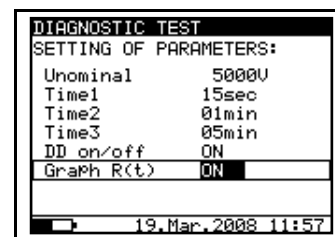

Fig. 20. Set-up menu in Diagnostic Test measurement
- Press the **SELECT** key, Set-up menu appears on display, see the **Fig. 20**.